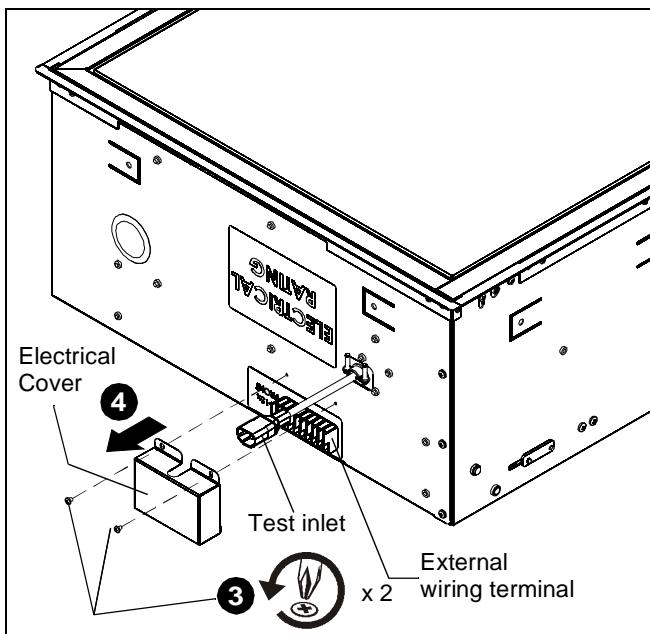
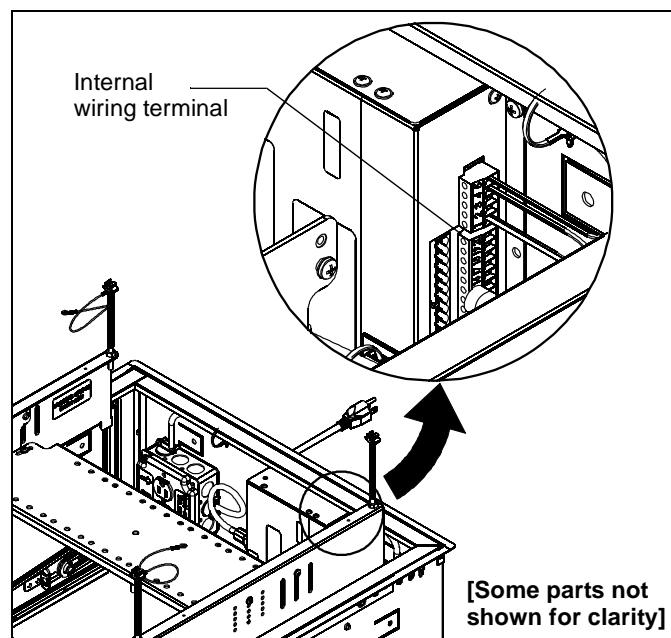

Figure 2
Figure 4
3. Remove and save two screws holding side electrical cover in place. (See Figure 2)
4. Remove electrical cover. (See Figure 2)
6. Plug the SL151i test inlet in using the supplied test power cord (J).
**NOTE:** The supplied test power cord (J) may not work in all countries, and the user may need to supply an appropriate cord for the country of use.
**NOTE:** (See Figure 2) for location of external wiring terminal. (See Figure 4) for location of internal wiring terminal.